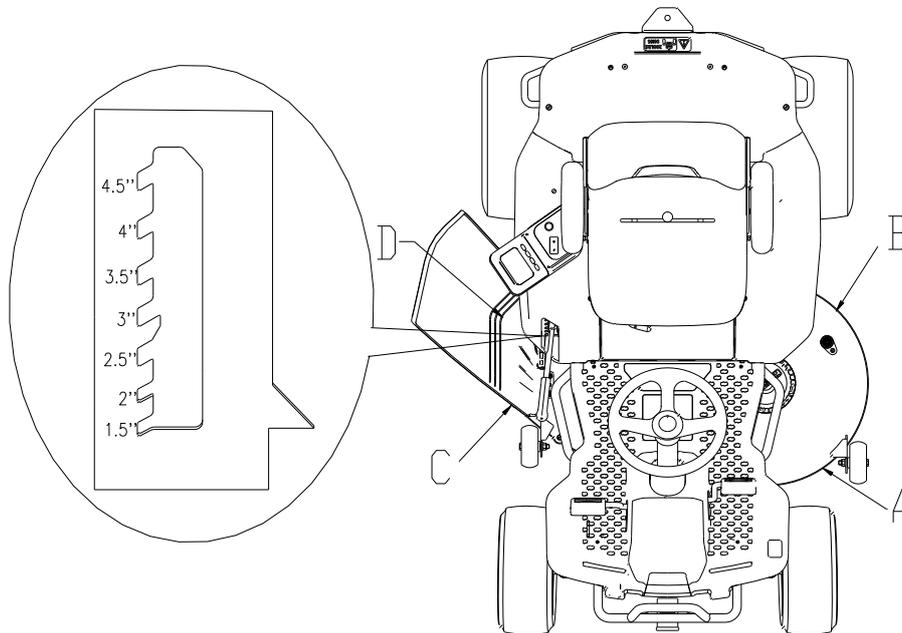

Fig. 5
1. Drive the machine to a level ground, put the deck height adjustment lever in the lowest position, which is 1.5-inch position hole (as shown in Fig.5 below).
3. Loosen the hexagon flange nut (17) and adjust the end nut (16) and the nut (18): clockwise to lift and counterclockwise to lower the blades.
4. Use a tape measure to measure the clearance above the ground at the four corners of the deck (A, B, C, D in Fig.5)
5. Use two 18 mm open-end wrenches to roughly adjust the two nuts (16) and (18) to lift A, B, C, and D off the ground at roughly the same height.